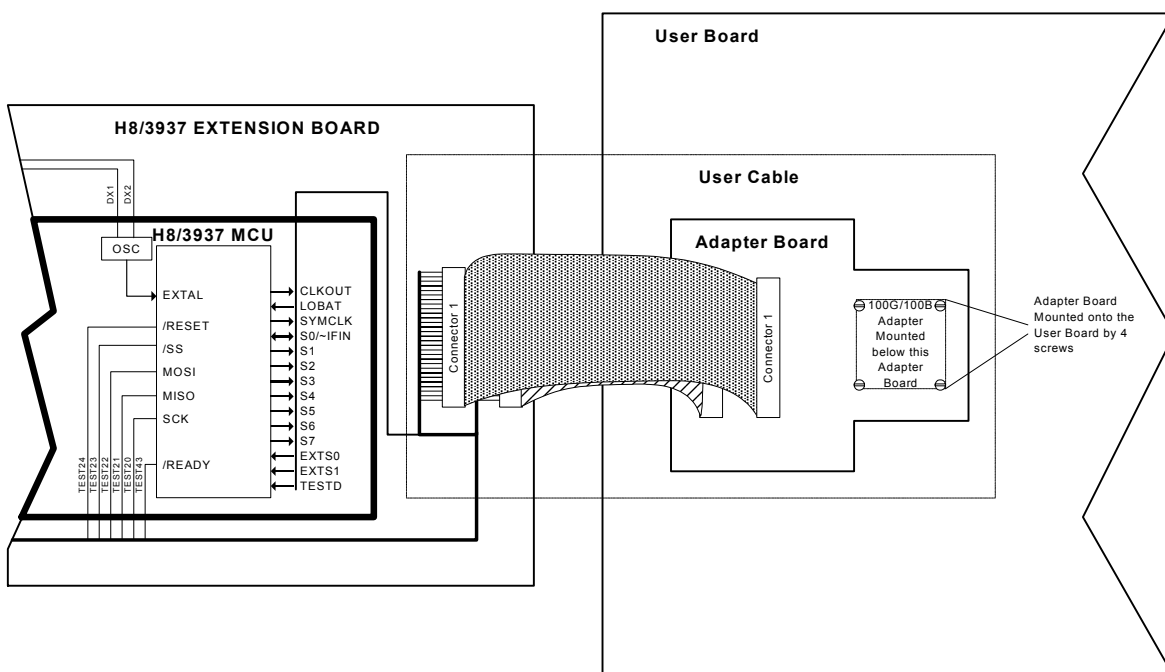

Figure 2-5 Interface circuitry between ALE300L-H8/3937(R) Flex Decoder Board and User Board
2.2.2.1. Interface Between ALE300L-H8/3937(R) Flex Decoder Board and Adapter Board
Figure 2-5 shows the ALE300L-H8/3937(R) Flex Decoder Board is connected to the User Board by a User Cable. The ALE300L-H8/3937(R) Flex Decoder Board is connected to the Adapter Board by means of 2 60-ways Ribbon Cable. The Option Board Connector 1 and 2 is connected to the Adapter Board Connector 1 and 2 respectively (as shown in Figure 2-5). Table 2-4 describes the Output Connector Pin assignment of the H8/3937 Option Board and the Input Connector Pin assignment of the Adapter Board.